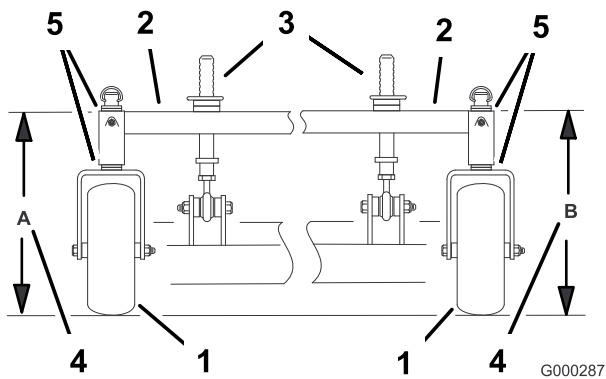

Figure 69
4. Measure carrier frame height at location **A** (Figure 69).
5. Measure carrier frame height at location **B** (Figure 69).